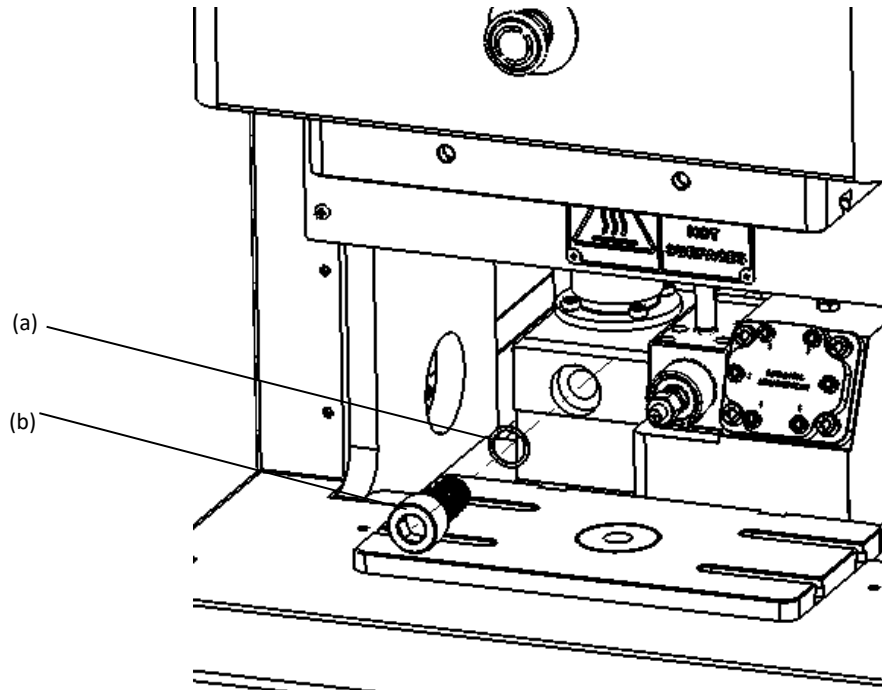
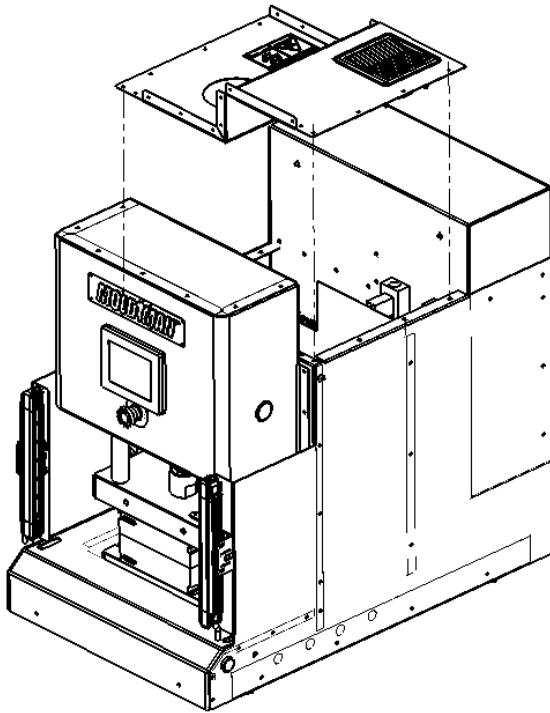

Figure 30: Reservoir Drain Plug
Figure 35: Removing the top panel
- Position a suitable heat resistant container under the drain plug (b) as shown on Figure 30 on the front side of machine. If this area is not easily accessible, place the container underneath the nozzle instead to prepare to purge material through the nozzle in a later step
- Remove the front panel as shown in Figure 30, and remove the top panel as shown in Figure 35.
To gain access to the air filter, access the pneumatic system by removing the top panel as shown in Figure 34. To drain potential water accumulation from the air filter open the screw (b) as shown in Figure 35 at the bottom of the bowl. Use a suitable container and/or rags to collect the water.